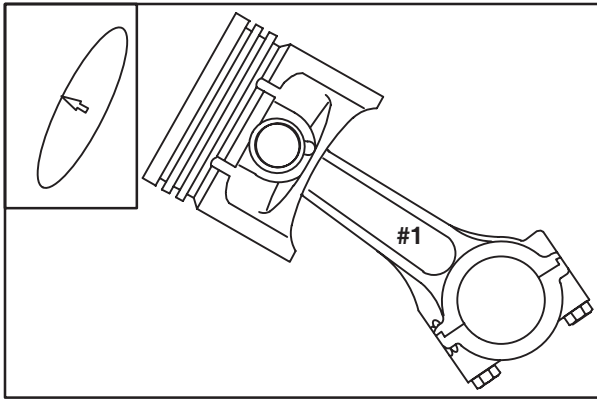

Fig. 8
1. Lubricate parts with engine oil. Assemble #1 piston to connecting rod, **Fig. 8**.
2. Arrow, notch or casting mark on piston must face flywheel side, inset **Fig. 8**.